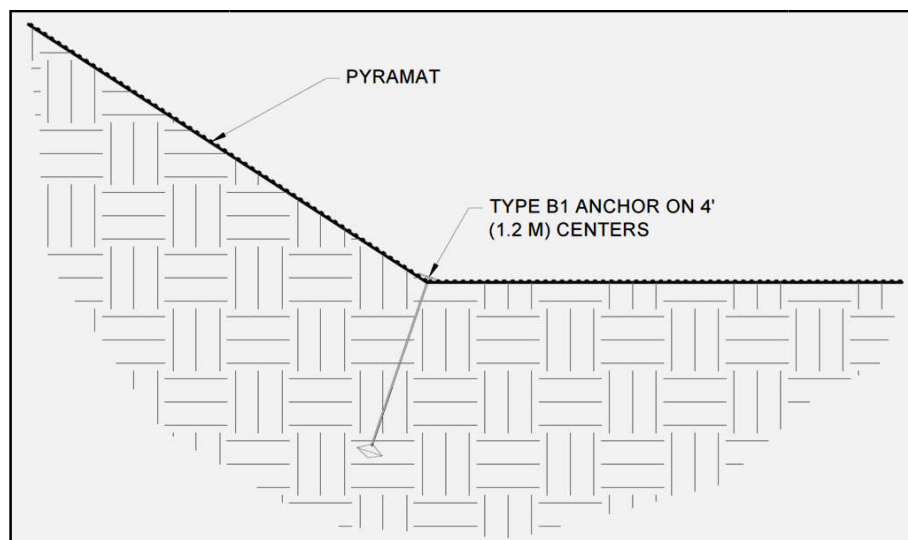

Figure 25: Break in Slope Interface
- At the break in slope interface towards the channel bed, it is suggested that PDEAs be installed on 4 ft (1.2 m) centers (Figure 25).